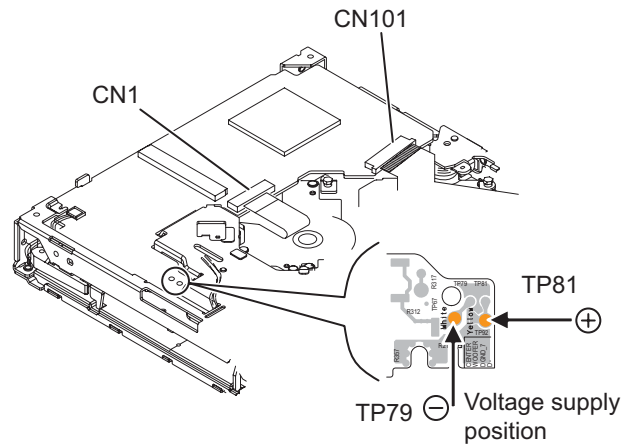

Fig.2
- (2) Voltage supply to TP79 and TP81 approx DC 3.0V until Clamper is shift to loading complete position. (See Fig.2)
- (3) Disconnect the flexible wires from Traverse mechanism assembly connected to connector CN1 and CN101 of the Front end board. (See Fig.2)